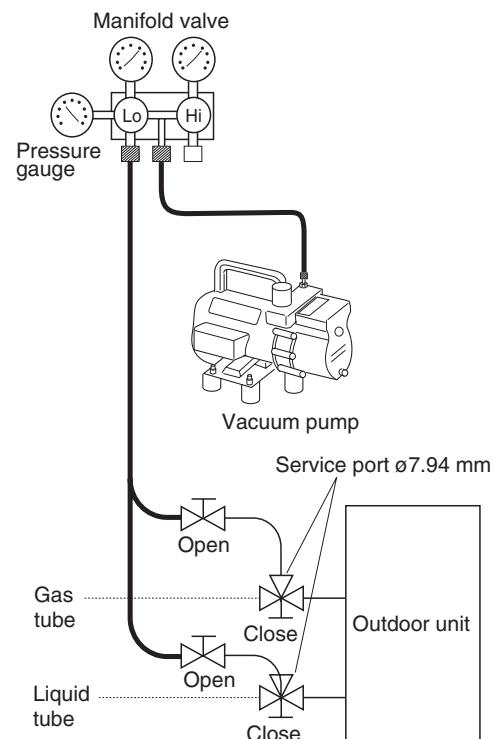

Fig. 2-36
- When the desired vacuum is reached, close the "Lo" knob of the manifold valve and turn off the vacuum pump. Confirm that the gauge pressure is under -101 kPa (-755 mmHg, 5 Torr) after 4 to 5 minutes of vacuum pump operation. (Fig. 2-36)